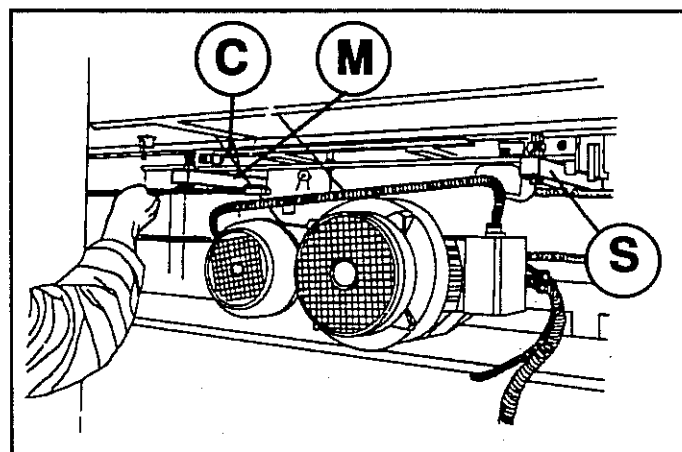
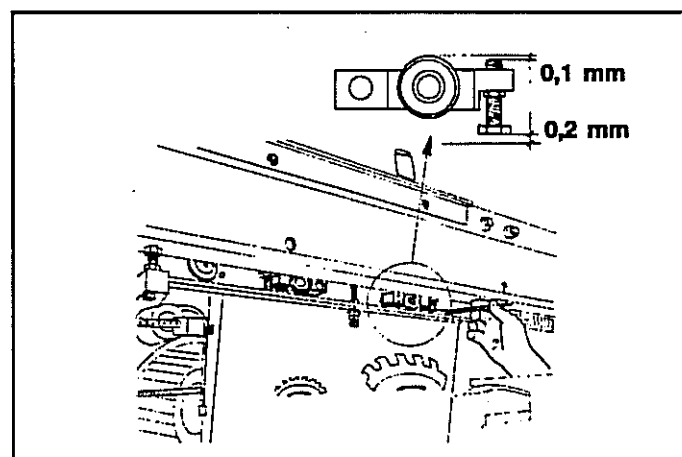

Fig.2.15
Fig.2.16
- 1- Remove the steel cable (C) from the motor by loosening the screws from clamp (M fig.2.15)
- 2- Loosen and remove the clamping screws firstly from one bracket (S) and then from the other, in order for the carriage to rest coherently and gently on the slideways.
- 3- Regulate the 4 screws of the contrast shoes to -0,2mm from their face. (fig. 2.16).